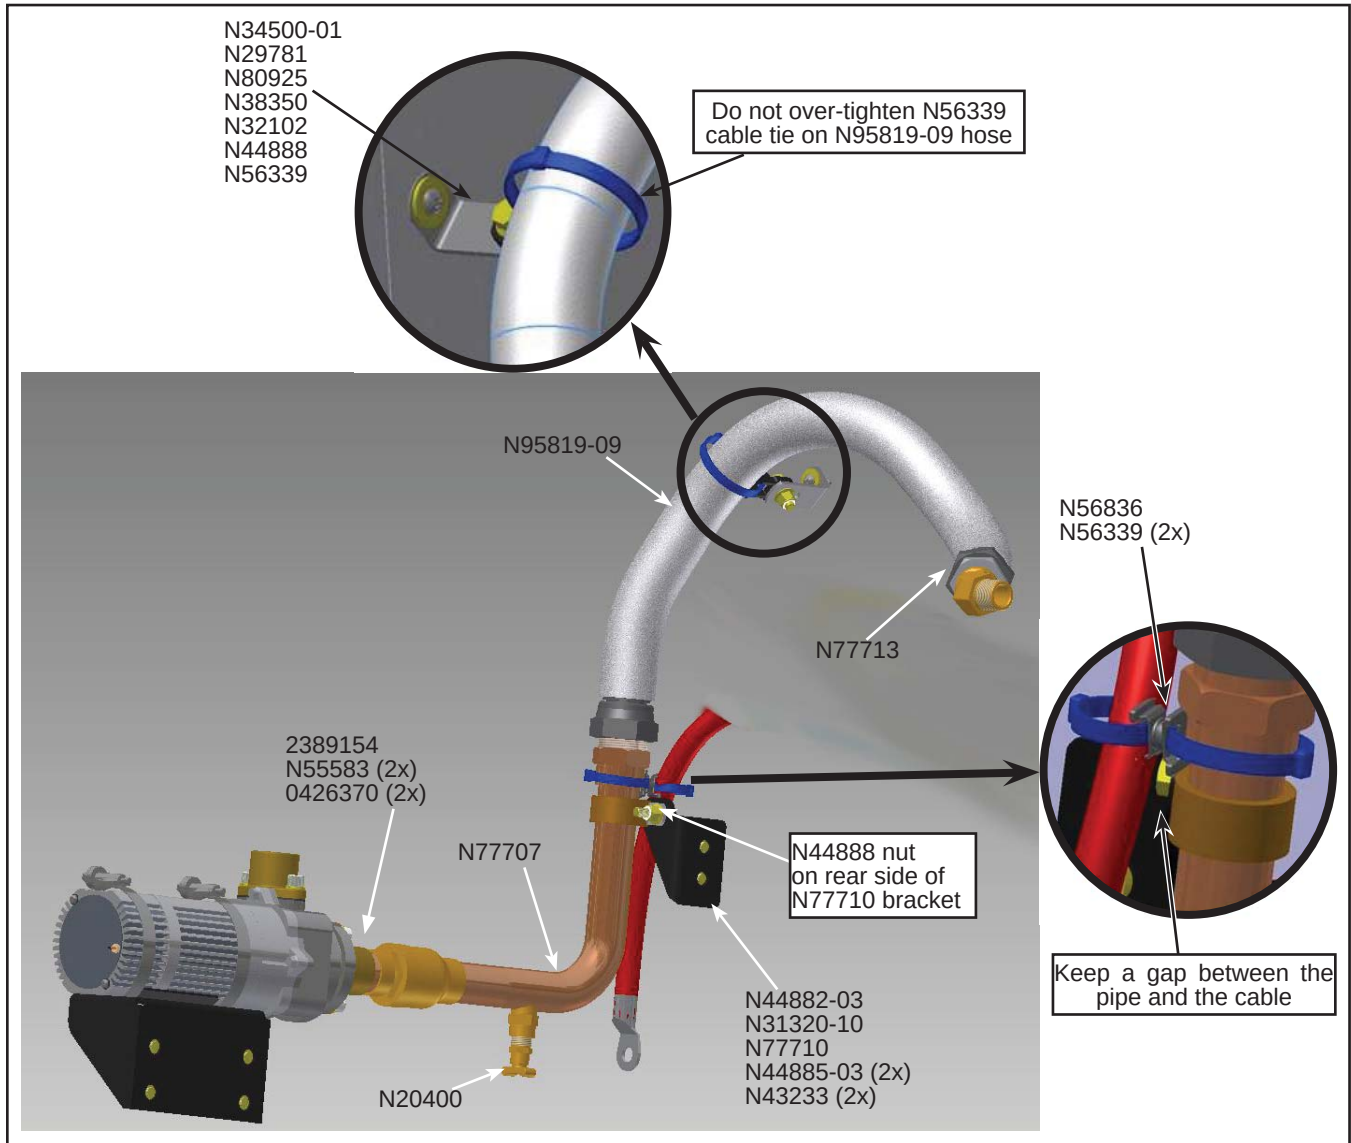

Figure 8 - Location of New Parts
- 1.12. Install N34500-01 bracket at a 45° angle on the firewall with N80925 screw and N29781 washer. Tighten the screw until the bracket is secured. See Figure 8.
- 1.13. Install N77707 pipe assembly onto the auxiliary pump with 2x 0426370 screws, 2x N55583 washers and 2389154 gasket. See Figure 8.
- 1.13.1. Make sure to keep a gap between the N77707 pipe assembly and the electrical cable. See Figure 8.
- 1.14. Install N95819-09 hose assembly onto N77707 pipe assembly and to engine 45° elbow. See Figure 8.
Do not over-tighten the N56339 cable tie when attaching the N95819-09 hose assembly to the N34500-01 bracket. See Figure 8.
- 1.15. Install N20400 drain cock onto N77707 pipe assembly. See Figure 8.
- 1.16. Install N77710 bracket support pipe. See Figure 8.
- 1.16.1. Make sure to place the N44888 nut on the rear side of the N77710 bracket support pipe. See Figure 8.